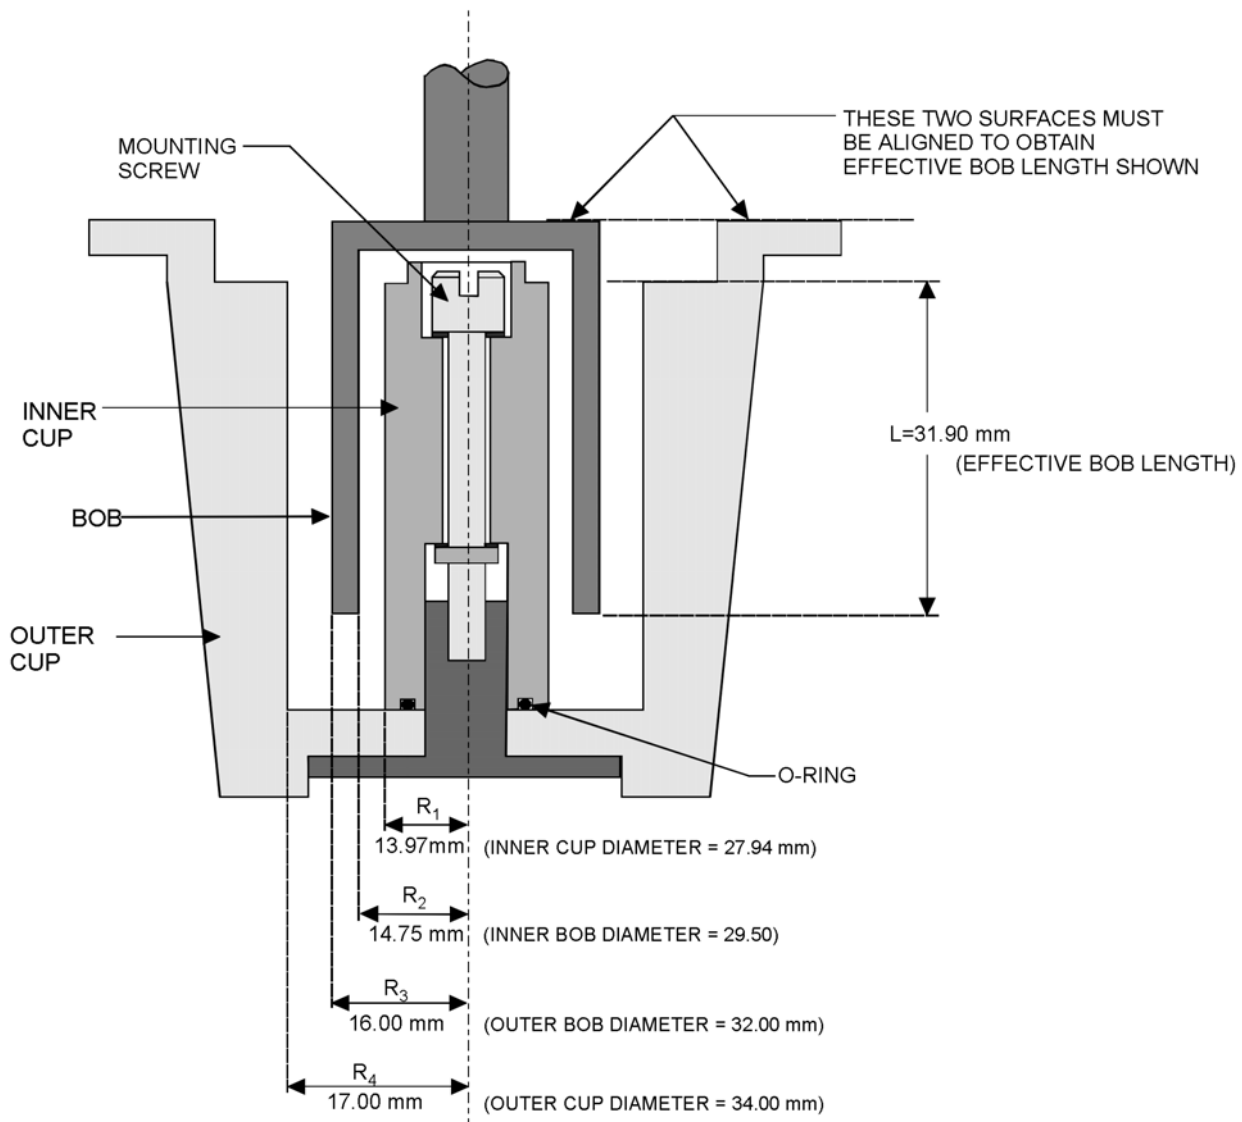

Figure 4-16. Double Wall Couette
1. Assemble the lower tool (cup) by installing the inner cup into the outer cup using the mounting screw provided (Figure 4-16). Make sure the o-ring is present, clean, and free of defects.
<p>Variables: L = length (mm) W = width (mm) T = thickness (mm) R = radius (mm) H = height (mm) G_c = gravitational constant = 980.7 cm/s² β = cone angle R_B = radius of the bob R_C = radius of cup For double wall Couette refer to Figure 4-16 for definition of R_1, R_2, R_3, R_4</p>